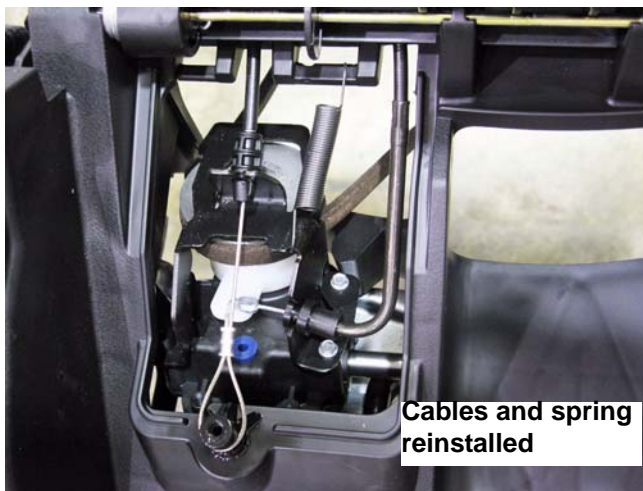

Figure 2.18
5. Reinstall the clutch control cable, the ground speed control cable, and the clutch release spring. See Figure 2.18.